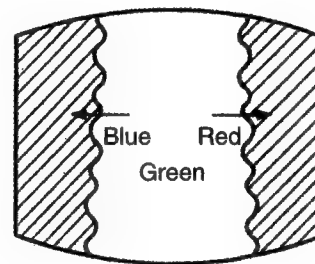

Fig. 3
- 4) Move the deflection yoke backward, and adjust with the purity control so that green is in the center and red and blue are at the sides evenly. (Fig. 3)